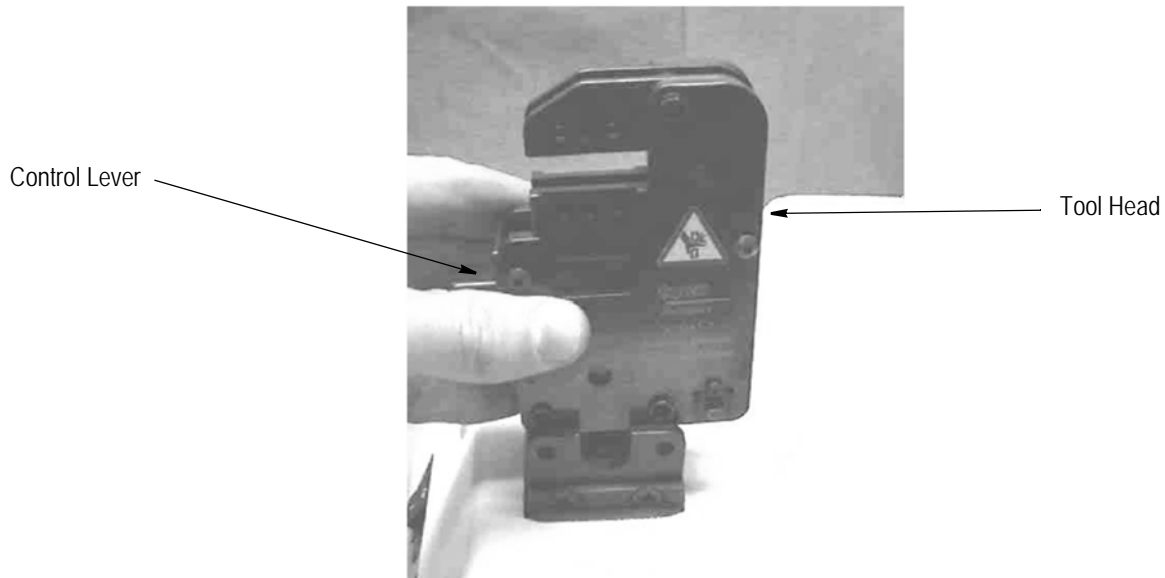

Figure 7
3. Mount the head from the back and lock with the safety pins. (Refer to Figures 7 and 8.)